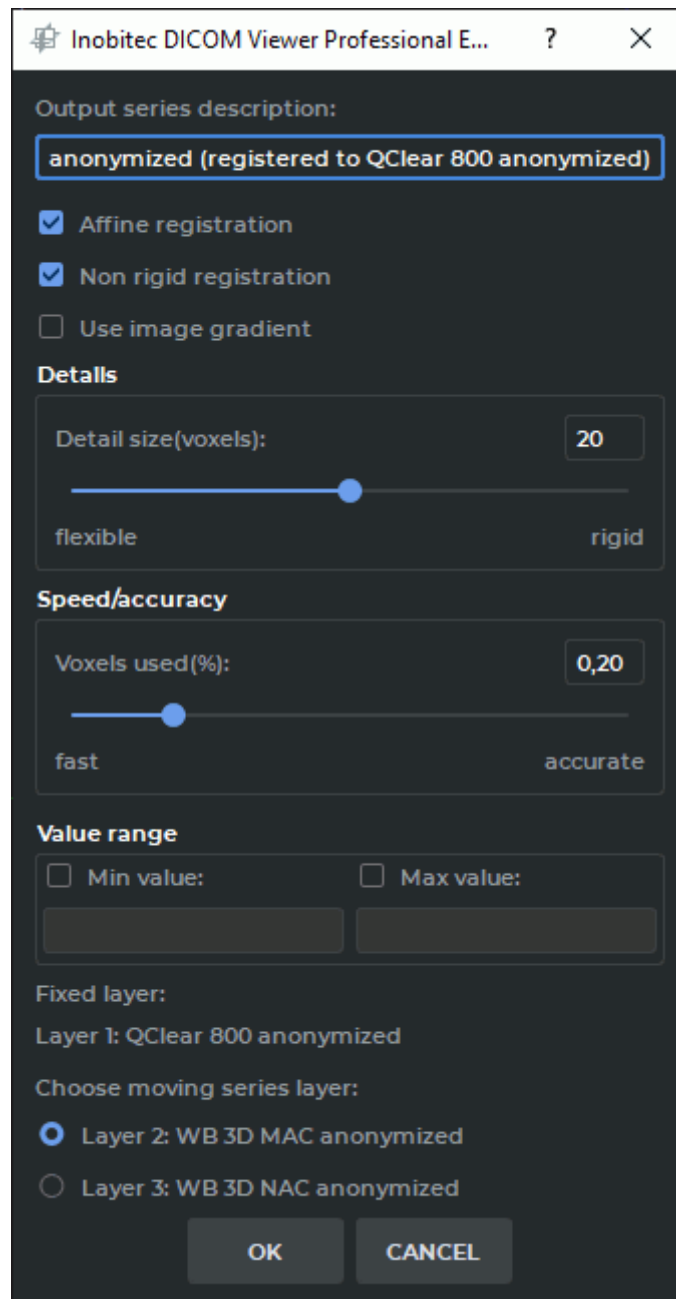

Figure 4.10: Series registration settings dialog
6. Click the **Volumes registration**  button. The dialog shown in Fig. 4.10 appears. If more than two series are fused, then the list from which you must select one series for registration (**Choose moving series layer**).